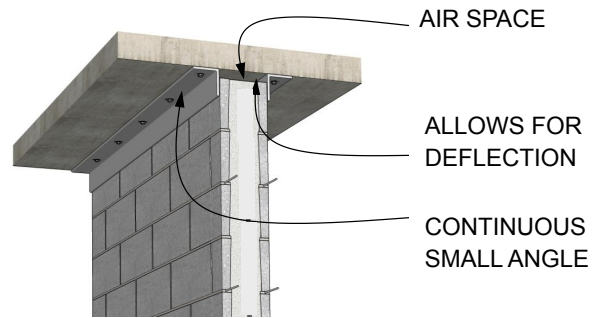

Figure 1: continuous angles
- 1. First option would be to use SMALL continuous angles at the top. Small angles (L2x2 or L3x3) are easy to fasten, and easy to handle - NO TOP-OF-WALL BOND BEAM. See Figure 1.